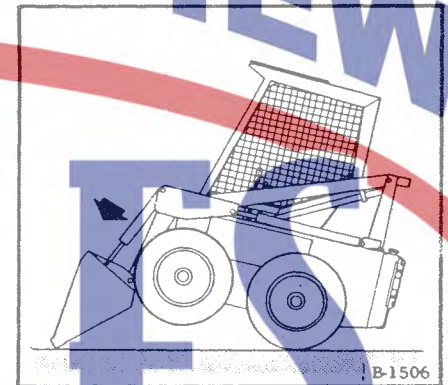

Fig. 60 Checking for Leaks (Tilt Circuit)
2. Tilt Cylinders: Load the bucket and roll it back as far as it will go. If the bucket will not remain tilted back, the piston seal in one or both of the cylinders is leaking or the cylinder bore is scored and should be repaired or replaced (Figure 60).